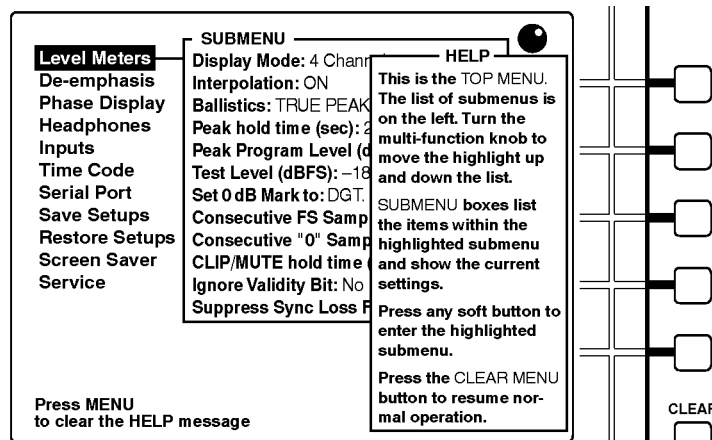

Figure 2-9: The top menu HELP message
2. When the 764 is in menu mode, the **MENU** button provides access to context-sensitive **HELP** messages. Press **MENU** now to see the TOP MENU help message; the display will resemble Figure 2-9. Press the button again to clear the message.